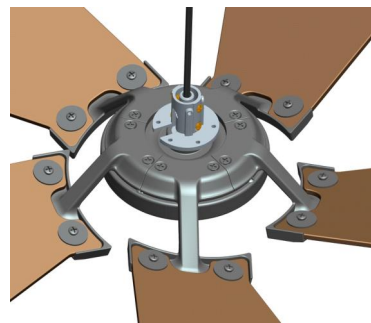

Fig 4.2
4.2 Install the five blade brackets with the installed blades onto the corresponding mounting holes of the motor as shown in Fig 4.2.